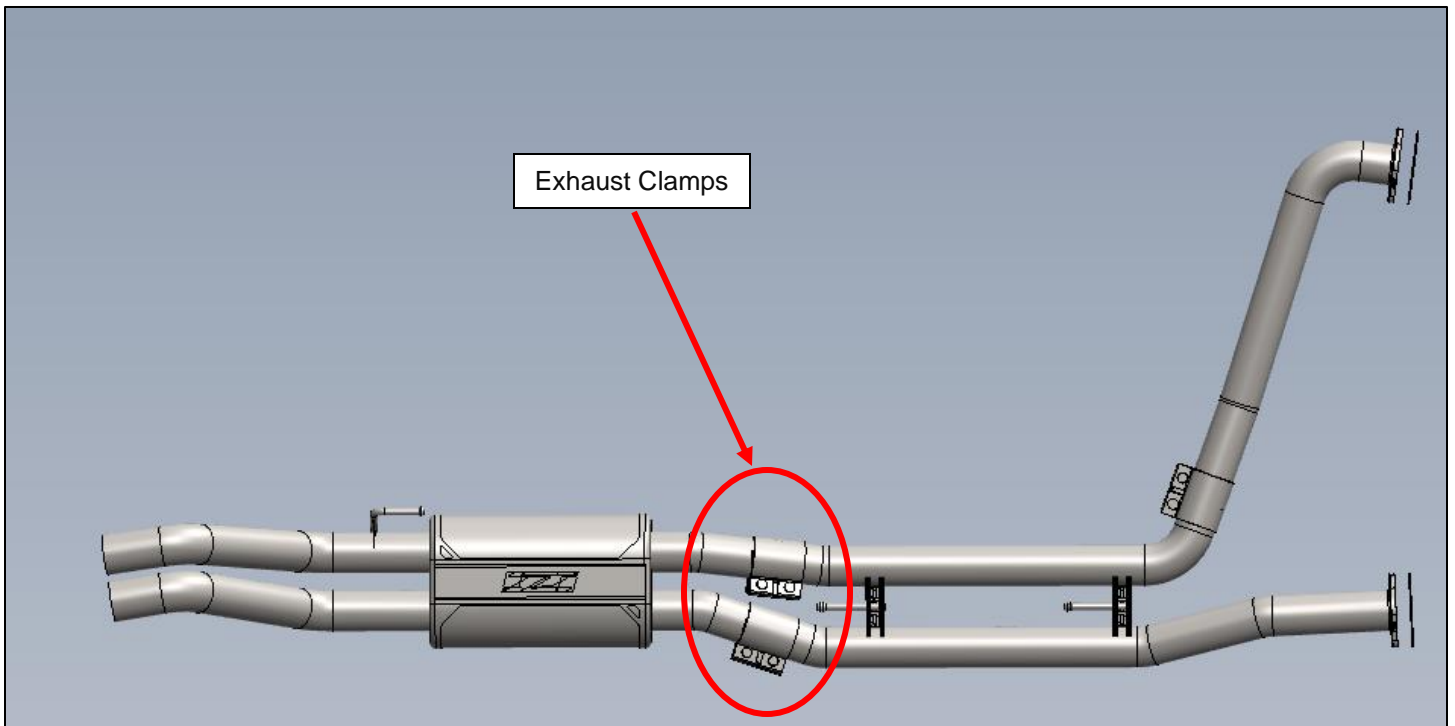

Figure 3
5. Locate the Muffler and (2) two Exhaust Clamps. Install the Muffler into the OE Exhaust Hanger. Join the (2) two ends of the Muffler to the Front Section and loosely secure with the Exhaust Clamps. *Figure 3.*